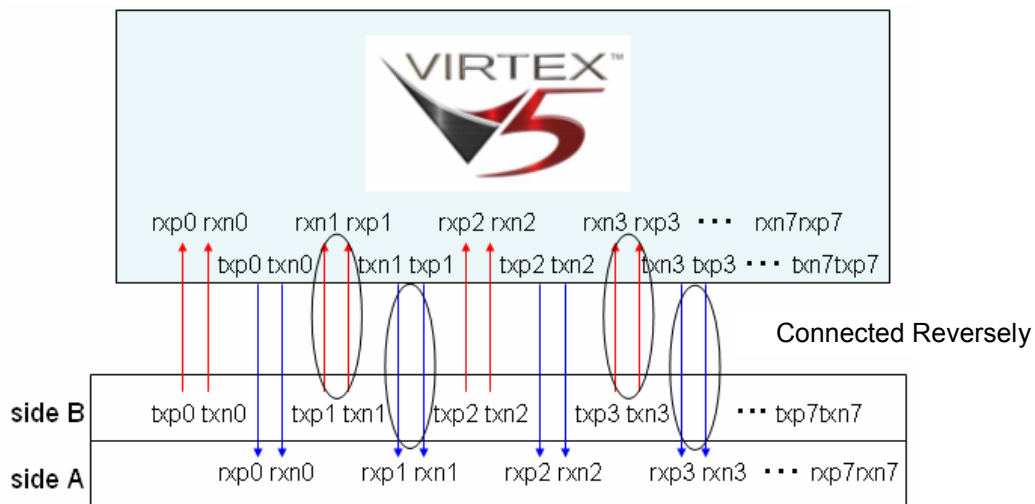

Figure5.4 GTP Signal Connection
- Some signals have the P/N polarity of FPGA's high-speed I/O "GTP" and the "PCI Express edge" connected reversely. Because that is easy to keep signal quality and a function to automatically reverse the polarity at the GTP's receiving end is used. Use the LogiCORE PCIExpress Block Plus. Refer to Figure 5.4.